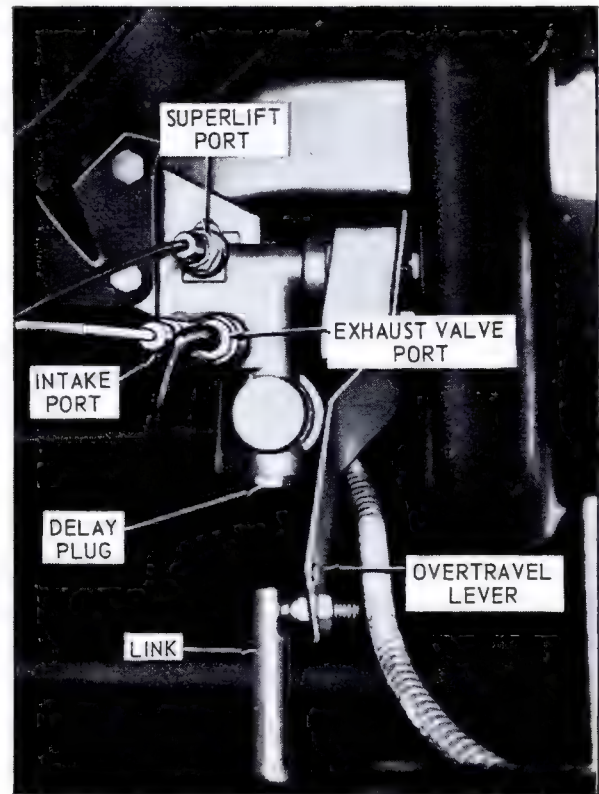

Fig. 4-18 Height Control Valve
2. Disconnect intake and Superlift air lines from fittings on control valve, Fig. 4-18.
3. Connect air lines at control valve intake and Superlift fittings, Fig. 4-18 as described in Note 9.